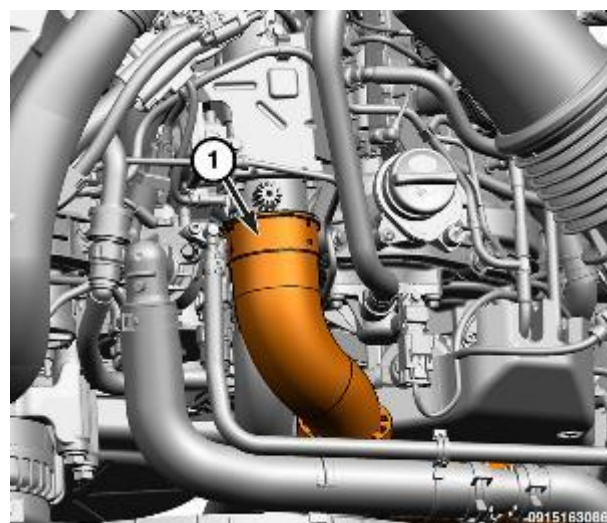

Figure 190 – CAC Hose
31. Release the retaining clip (1) and disconnect the CAC hose from the EGR air flow control valve (Figure 190).
54. Install the fuel tube bolt (2) securing the fuel tube and tighten securely (191).
55. Connect the CAC hose to the EGR air flow control valve and secure the retaining clip (1) (Figure 190).